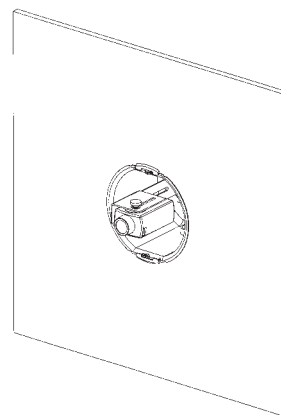

Figure 1
4. Install box into pre-cut tile with the bottom flange, then press against the tile. Position the round section of the box in the direction that the camera will be aimed. See Figure 1.